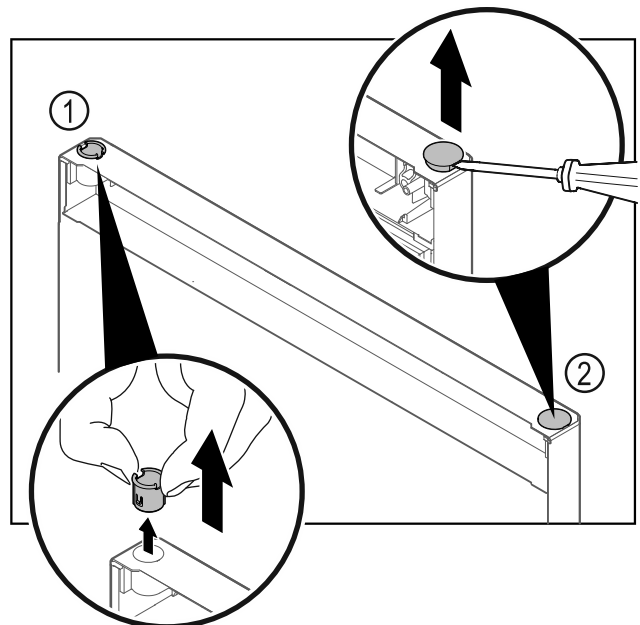

Fig. 18
- ▶ Pull out the hinge bushing Fig. 18 (1) with your fingers.
- ▶ Carefully lift the cover plug Fig. 18 (2) with a slotted screwdriver and pull it out.